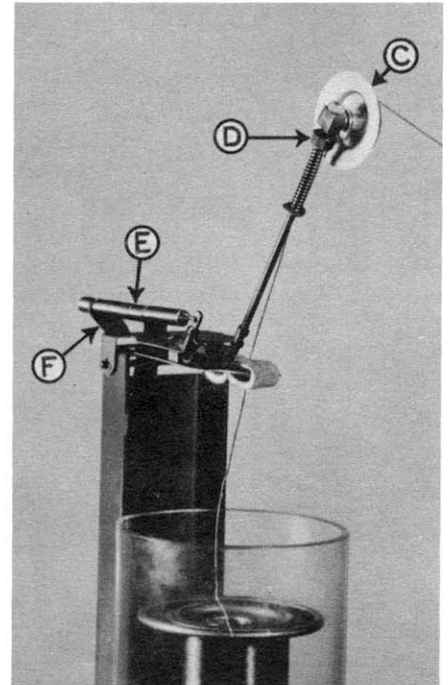

Fig. 4
4. *Bring the wire up and over the compensator wheel "C" (Fig. 4) from rear to front.*